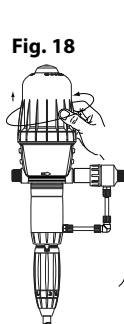

Fig. 18
- Unscrew the bell by hand (**Fig. 18**) and remove it.